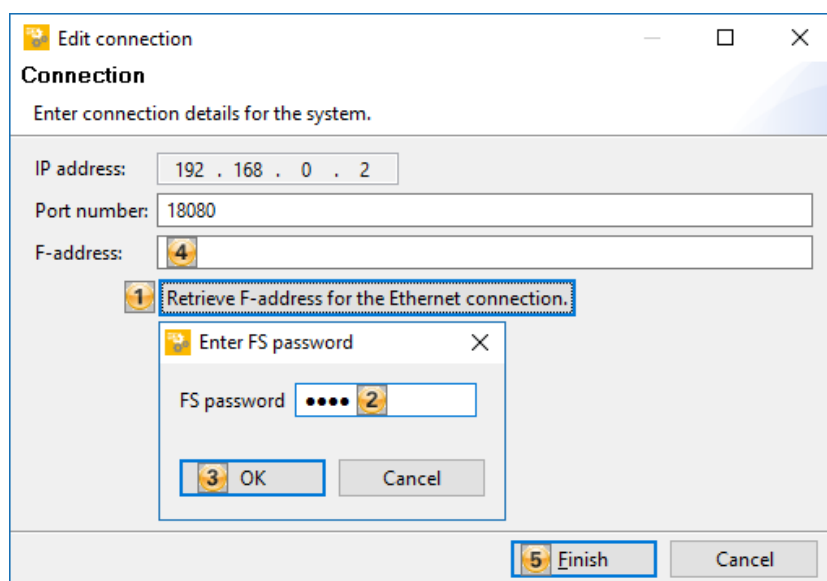

Figure 127: PASconfig – Connection » Read out the F-address for the Ethernet connection
– Now click on the button »Edit«, a window like in Figure 127 opens: